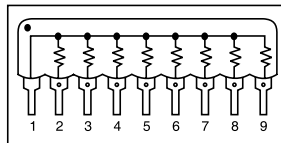

Fig. 57: SIL/SIP 8-resistor network
8. SIL (single-in-line)/SIP (single-inline-pins) RNW (resistor network): This is one of the more popular resistor configurations for saving space on a PCB, when one side of each resistor is to be connected to a common point (e.g., ground or positive or negative rails) and the resistors are of equal value, e.g., 100-kilo-ohm each. The normal wattage is 1/8W. The pin-to-pin spacing is again 2.54 mm (0.1"). For 8-resistor NW, there are 9 pins, as shown in Fig. 57. Pin 1, marked with a black circle or tapered end, depicts the common pin.